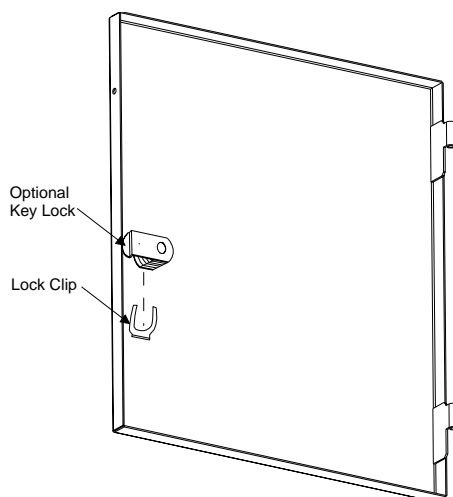

Figure 8. Optional Key Lock Mounting
- With the key in the lock, insert the lock into the knockout hole as shown in Figure 8.